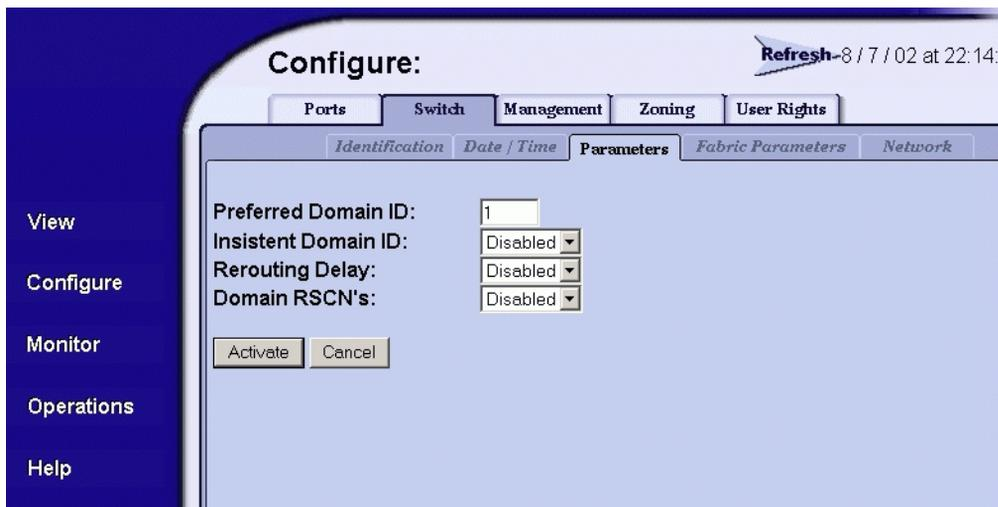

Figure 2–6: Switch page—Parameters tab
3. At the **Configure** window, click the **Switch** tab, then click the **Parameters** tab. The **Switch** page displays with **Parameters** tab selected, as shown in Figure 2–6.